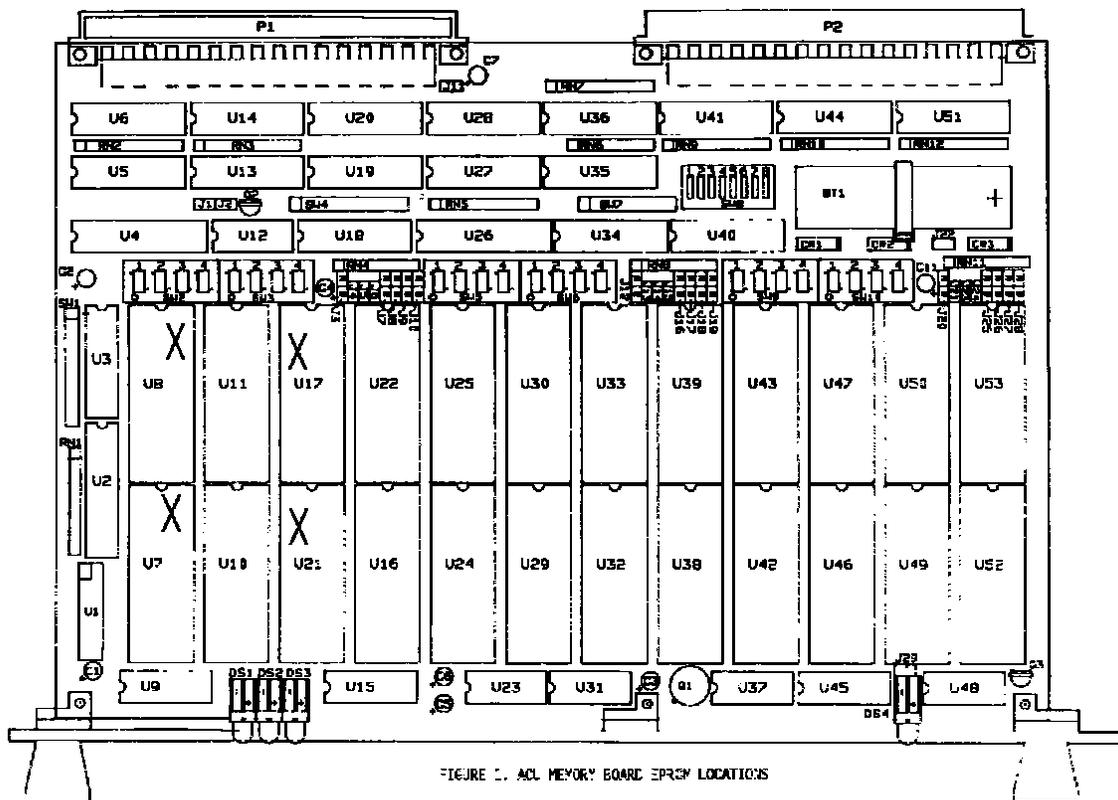

FIGURE 1. ACL MEMORY BOARD EPROM LOCATIONS
All ASOS application software is contained on four erasable programmable read only memory (EPROM) integrated circuits (IC) on ACU memory board 1A2A3. Figure 1 illustrates the ACU memory board and identifies the four EPROMs (U8, U17, U7, and U21). The EPROMs are 32-pin dual in-line package (DIP) CMOS devices, each providing 512K x 8 bits of storage. Upgrading ASOS software requires only replacing the four EPROMs on the ACU memory board with higher revision level ICs.
If the ACU PROMs in the system are 1.70 or higher, the ACU is no longer cold started by removing battery jumper J22 (Figure 1) to clear all RAM on the board. The next step requires receiving a download of site-specific data from the AOMC. The DCPs are cold started by performing a hard reset of each DCP from the processor status page on the OID. After completion of the upgrade procedure, the EPROMs removed from the ACU memory board should be packaged in appropriate electrostatic discharge (ESD) protective material for return. NOTE: There may be an approximate 20-minute wait required to access the AOMC.
4. Using IC insertion tool, remove new EPROM integrated circuits from protective packaging and insert into ACU memory board sockets in accordance with the following chart. Ensure that EPROMs are installed with pin 1 (as identified by notch in top of IC) oriented toward board connector P1 as shown on Figure 1.